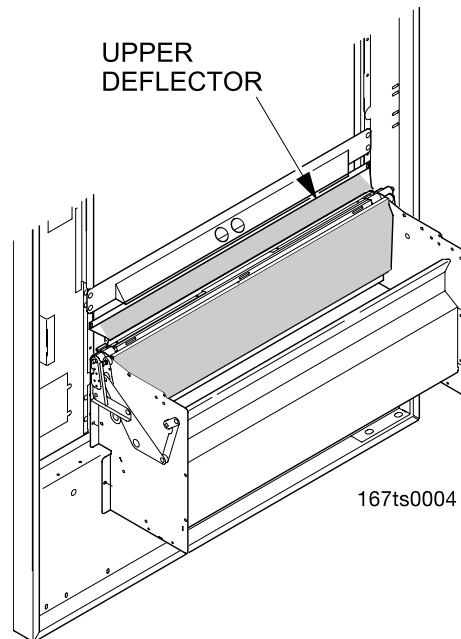

Figure 25
2. If no SureVend™ system is installed, remove 2 hex head screws securing the upper deflector to the door (figure 25). Save for later use. Remove the deflector and save for later use.
3. Remove 3 hex head screws from each side of the delivery pan (figure 25). Save the screws for later use.